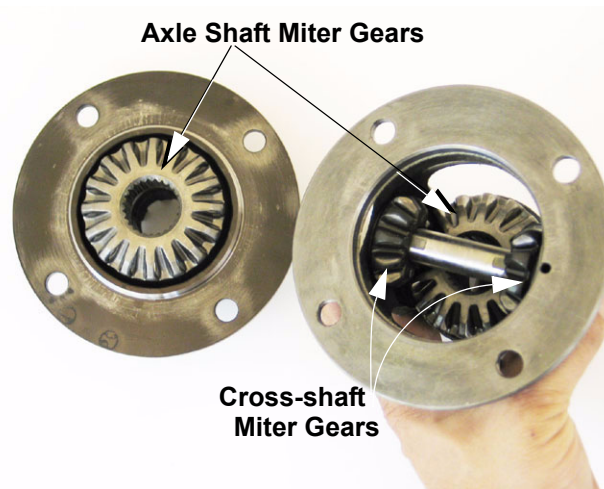

Figure 13.4
- 13.4. Lift the differential housing (containing the miter gears) off of the differential housing end plate (with differential lock dog machined into it). See Figure 13.4.